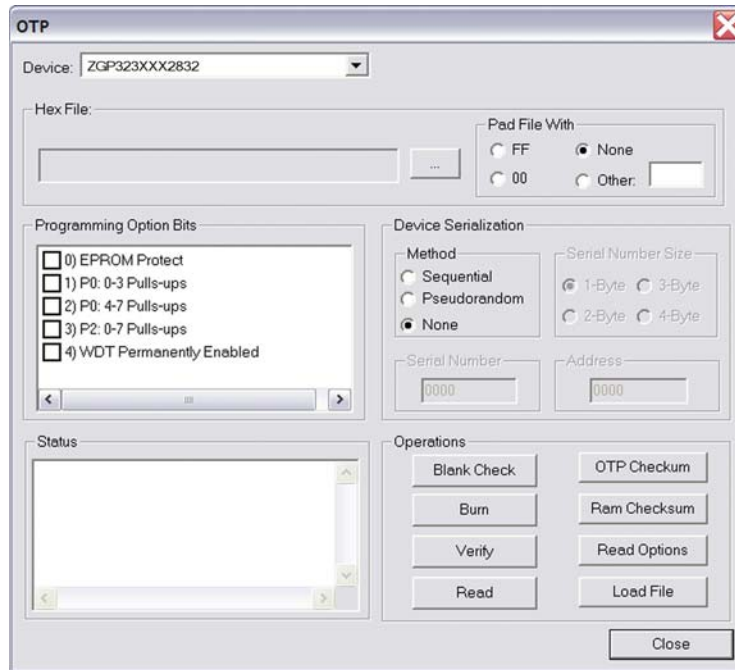

Figure 12. OTP Programming Window (Hex File Example)
8. If you do not want to pad the hex file, select the **None** button in the **Pad File With** area (see Figure 12 on page 20). Otherwise, select **FF**, **00**, or **Other** button. If you select **Other** button, type the hex value to pad the hex file with in the **Other** field.
6. Select **Tools** → **OTP Programming** to open the OTP window, see Figure 12 on page 20.